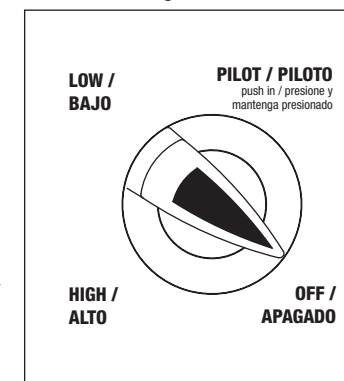
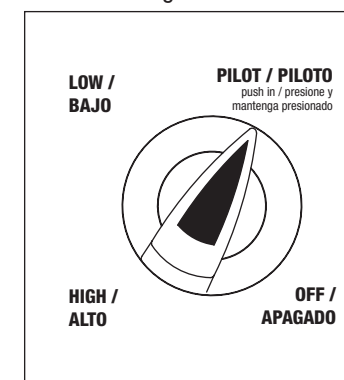

Figure 4
Figure 5
4. Push control knob in and rotate to "PILOT" position. (Figure 4)
*Electronic Ignition:* Immediately push igniter button for five (5) seconds. Pilot light flame will appear and be visible through viewing hole.
8. Turn control knob to "HIGH". (Figure 5) Main burner will light immediately. Flame is visible through viewing hole. If not, turn control knob "OFF", wait 5 minutes, and repeat lighting procedure.